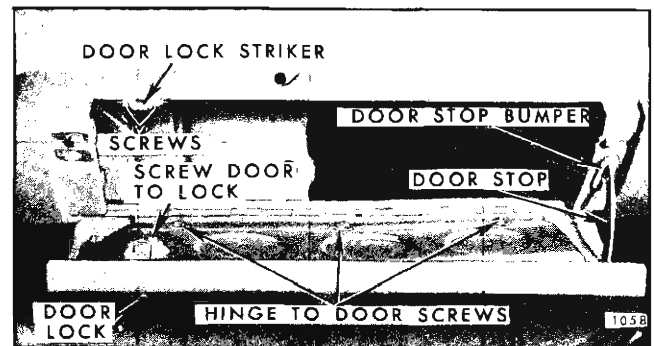

Fig. 1C19—Instrument Panel Compartment Door
2. Remove hinge to inner panel screws (Fig. 1C19).